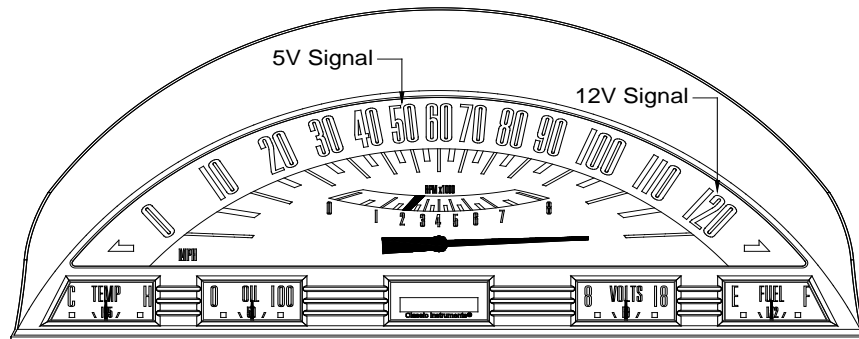

FIG. 5
- 1) Tap the pushbutton until the tachometer points to 2000 RPM (tachometer signal type option). **Fig. 5**